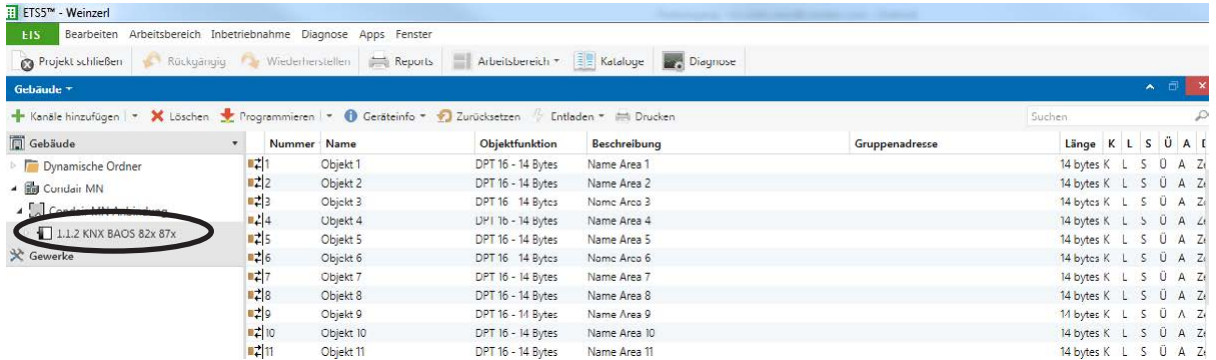

Fig. 3: Download the "MN Option KNX.KNXPROJ" project file
3. After you have opened the project file "MN Option KNX.KNXPROJ" with the ETS5 software, the device "KNX BAOS 82x 87x" appears. This device forms the interface between the Condair MN and the existing KNX home automation system (see Fig. 3).